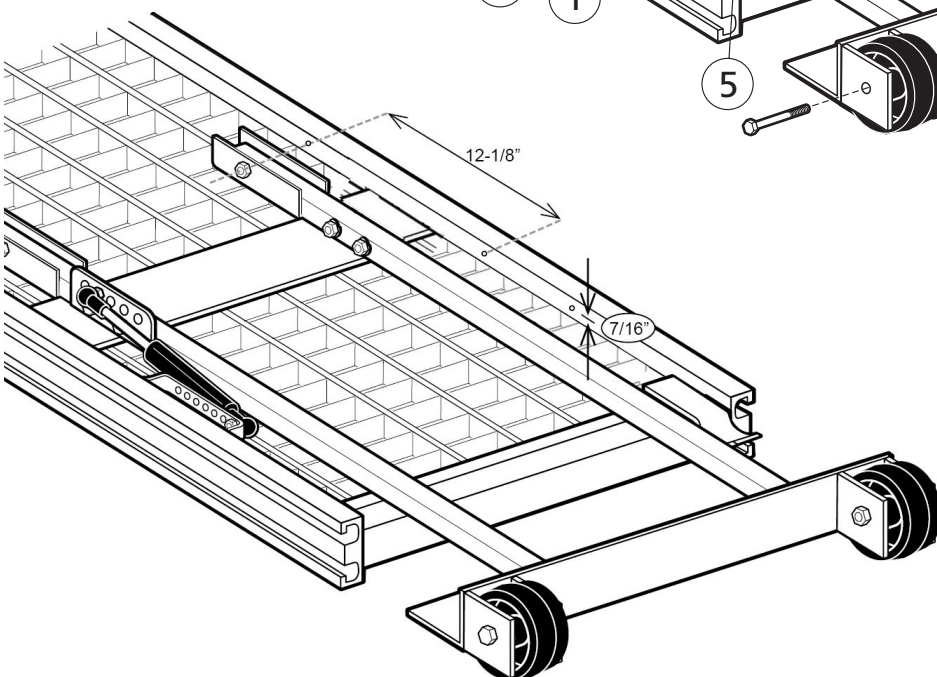

Figure 2
1. Extend the ramp and remove the three (3) bolts attaching the anti-theft plate stop to the carriage assembly.
3. Attach the brackets, **(Item 2)**, to the outside of each carriage arm as shown on the installation drawing. Use four (4) each 1 3/4" long screws, lock washers and nuts, (the bolt heads are to be placed against the brackets with the washers and nuts against the tube) and tighten.
4. Locate the ramp bracket, **(Item 1)**, from the center of the pivot bracket holes as shown on the installation drawing (holes are not centered in the bracket height, see 12-1/8" and 7/16" referenced dimensions in Figure 2). Place the bracket against the bottom side of the ramp's deck and drill two (2) 11/32" diameter holes using the bracket as a guide. Repeat this procedure on the other side curb.
5. Attach the ramp brackets, **(Item 1)**, to each curb; use four (4) each 1" long screws, lock washers and nuts. Place the heads of the bolts on the outside of the ramp with the washers and nuts against the brackets and tighten.
6. Attach the four ball studs, **(Item 5)**, with four (4) each lock washers and nuts. Locate the studs in the carriage brackets, **(Item 2)**, in the first hole from the low end for 10 and 12 foot long ramps; in the second hole for 14 foot and the third hole for 16 foot long ramps. Locate the studs in the ramp brackets, **(Item 1)**, in the second hole from the low end for 10 and 12 foot long ramps, in the third hole for 14 foot and the fourth hole for 16 foot long ramps. These are suggested starting locations and may need to be adjusted later.